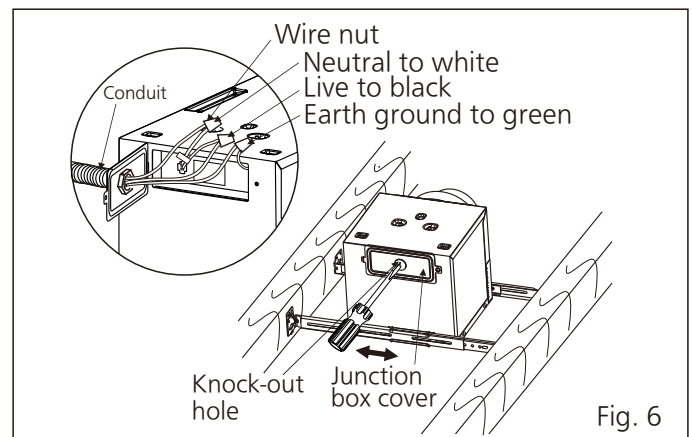

Fig. 6
7. Remove the knock-out hole from the junction box cover, and remove the junction box cover. Then secure the conduit or stress relief to the junction box knock-out hole. (Fig. 6)
8. Refer to wiring diagram (Page 5). Follow all the local electrical safety codes as well as the National Electrical Code (NEC). Using UL approved wire nuts, connect house power wire to recessed luminaire wires. (Fig. 6)